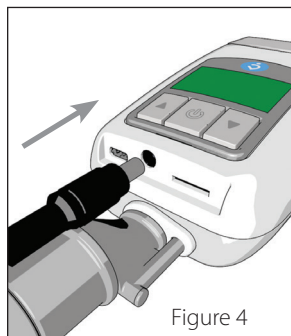

Figure 4
3. Plug the AC Adapter into the **Z1**. (Figure 4)